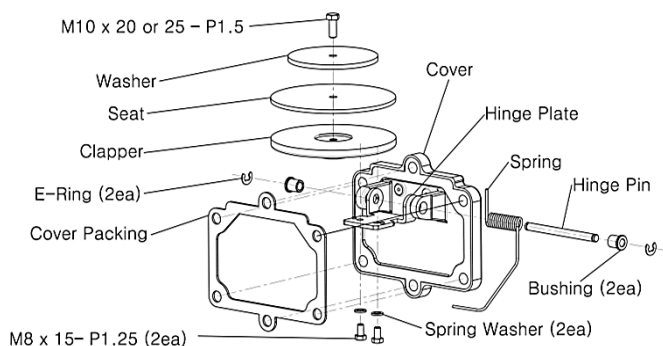

Figure 10 Exploded view of Cover/Clapper assembly
2. Completely disassemble the Cover/Clapper assembly as shown in Figure 10 for individual component inspection.
- 4.2 Position the Washer (with rubber in place) against Clapper as shown in Figure 10.
4.3 Replace and tighten the button-head socket screw, Sealing Washer, and hex nut, as shown in Figure 10. Do not over-tighten.